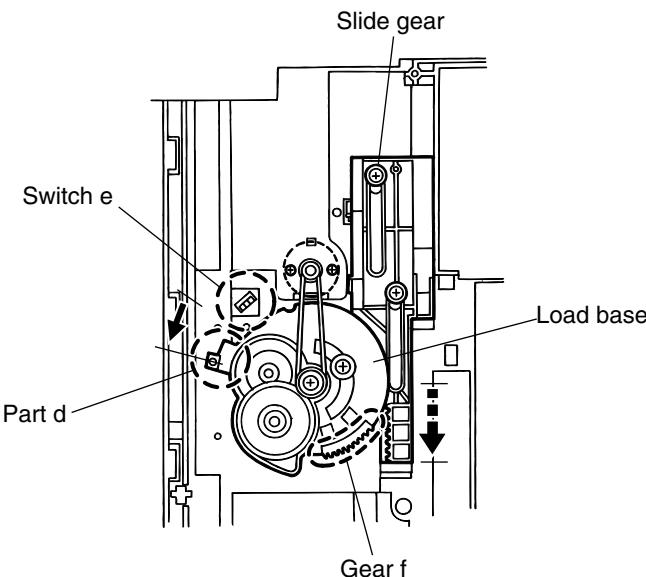

Fig.23
- Move the slide gear toward the front until it stops (Fig.23).